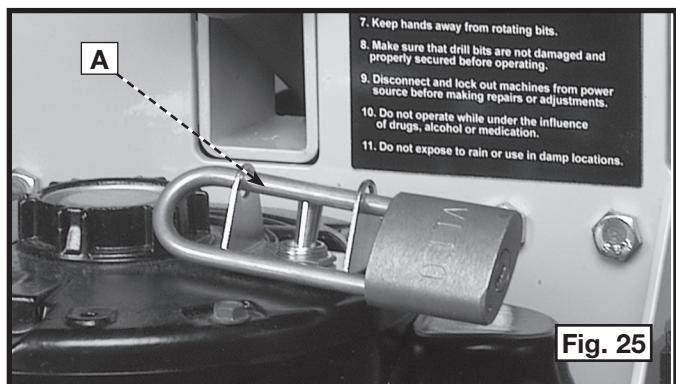

Fig. 25
IMPORTANT: When the machine is not in use, the switch should be locked in the "OFF" position using a padlock (A) Fig. 25 with a 3/16" diameter shackle to prevent unauthorized use.